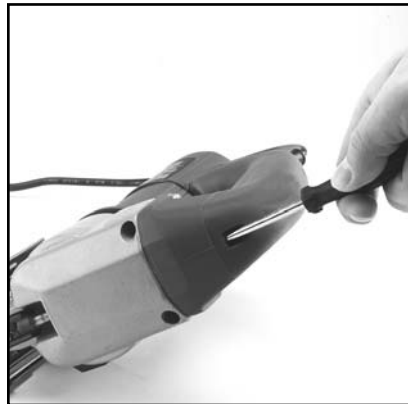

Fig 5. Tightening blade locking screw.
3. Insert the screwdriver included with this Jig Saw into the hole at the top front of the saw. See Figure 5. Tighten the screw while making sure the blade stays in the roller groove.